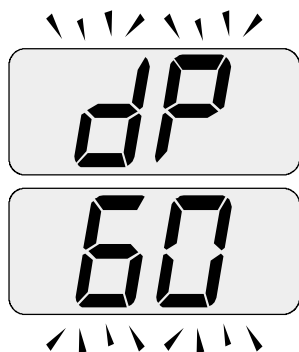

Fig. 8.9
- 21 Press further key A. The display shows the letters **dP** that alternate with the heating water temperature value (e.g. **60**) (Fig. 8.9). On this models this step is not relevant and the value shown is the same of the step 20. No setting is needed on this step.